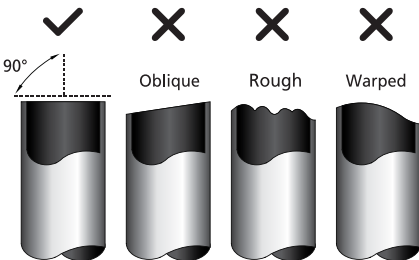

FIG. 5.1
- Make sure that the pipe is cut at a perfect 90° angle. Refer to FIG. 5.1 for bad cut examples.